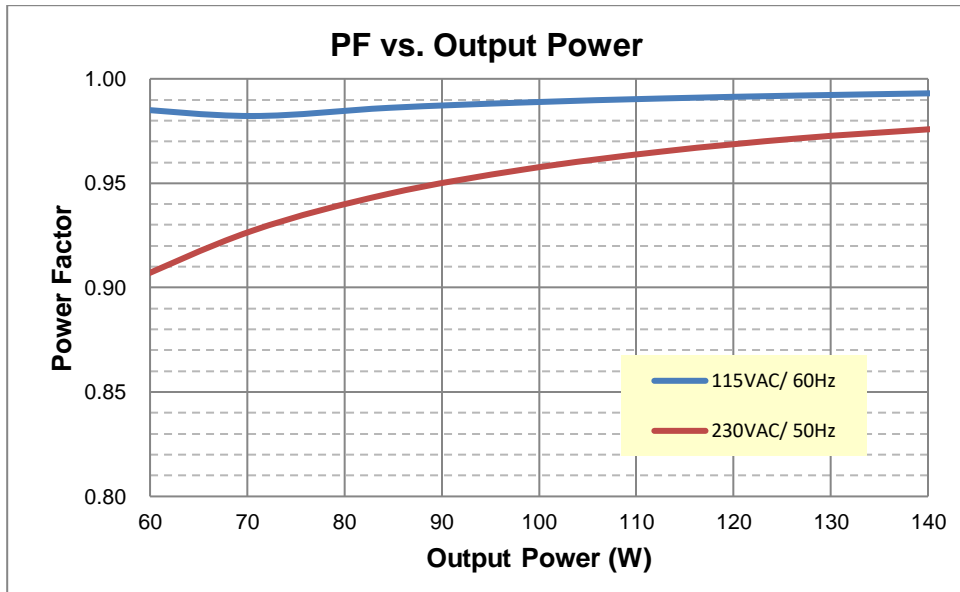

Figure 16: PF vs. Output Power – Full Load 140W PDO_20V/7A
Figure 16 illustrates the Power Factor (PF) vs Output Power